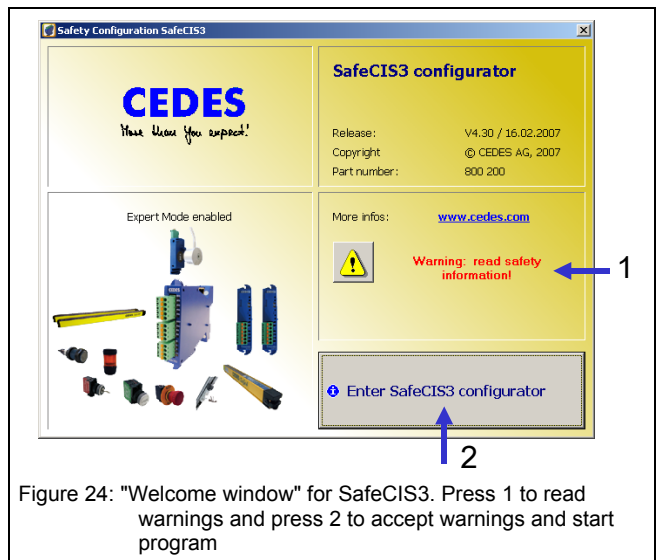

Figure 24: "Welcome window" for SafeCIS3. Press 1 to read warnings and press 2 to accept warnings and start program
Now the program "Welcome window" (Figure 24) is opened. In this window you will find a link to the important safety information. Read the information by clicking the mouse when the cursor is in the exclamation mark (1). Press "Accept" to accept the information.